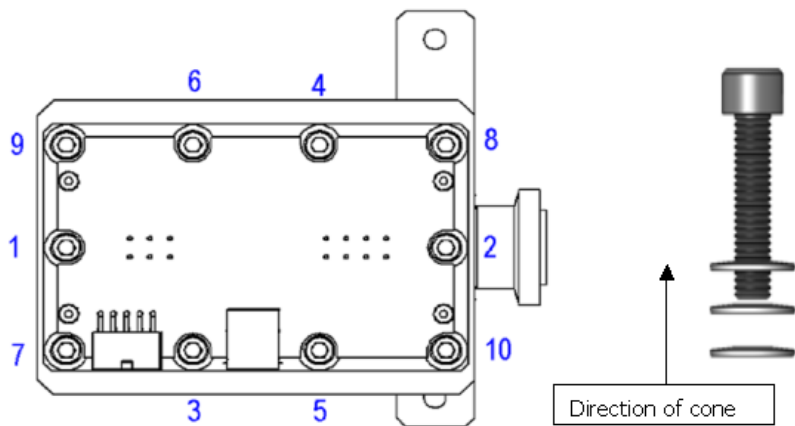

Figure 7: Direction of Cone
8. Use an M5 allen wrench to loosen screws (item 1) and carefully remove the spectrometer header from the body. The vacuum system vents to atmosphere as the screws are loosened. Retain the socket head cap screws (item 1) and the Belleville washers (item 2). See line item 21 for correct orientation of the Belleville washers (Figure 7: Direction of Cone).
17.Insert a screw with three Belleville washers into each hole and finger tighten (Figure 7: Direction of Cone).
18. Following the pattern shown in Figure 7: Direction of Cone, torque screws to 45 in-lbs (5.0 N-m).
20. Wait a minimum of five minutes then torque the screws shown in pattern (Figure 7: Direction of Cone) to 90 in-lbs (10.2 N-m).